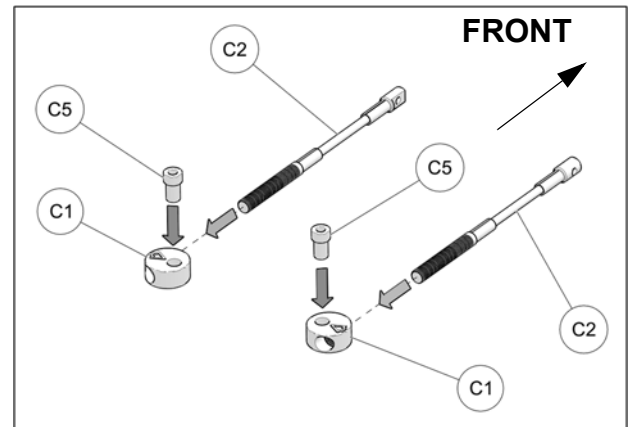

Fig. 25
15. Assemble steering limiter cables (C2), aluminum disks (C1) and step spacers (C5) together as shown on Fig. 25